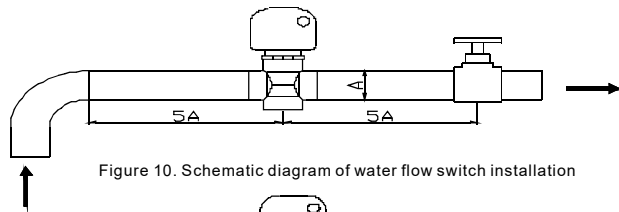

Figure 10. Schematic diagram of water flow switch installation
- The water flow switch must be installed on a straight pipe with at least 5 times the pipe diameter on both sides of the linear stroke. At the same time, it must be noted that the direction of the liquid flow in the pipe must be consistent with the direction of the arrow on the controller. The wiring terminal should be in a position where wiring is easy. (Figure 10)